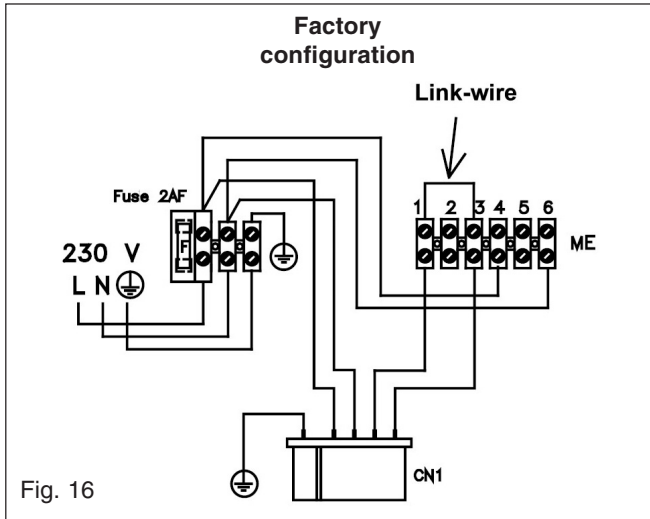

Fig. 16
Isolate the appliance from the electrical supply, and using a suitable multi-meter, carry out a short circuit test between the Live & Neutral connections at the appliance terminal strip (fig.16).
Repeat above test on the Live & Earth connections at the appliance terminal strip (fig.16).
- Connect test leads between the Live & Neutral connections at the appliance terminal strip (fig.16). The meter should read approximately 230V ac. If so proceed to next stage. If not, see 7.7.4.
- Connect test leads between the Live & Earth connections at the appliance terminal strip (fig.16). The meter should read approximately 230V ac. If so proceed to next stage. If not, see 7.7.4.
- Connect test leads between the Neutral & Earth connections at the appliance terminal strip (fig.16). The meter should read approximately 0 – 15Vac. If so polarity is correct. If not, see 7.7.4.
Isolate the appliance from the electrical supply, and using a suitable multi-meter carry out a resistance test. Connect test leads between the Live & Earth connections at the appliance terminal strip (fig.16). If the meter reads other than infinity there is a fault that must be isolated, carry out a detailed continuity check to identify the location of the fault.
The appliance comes with a factory fitted link (fig. 16) to allow basic operation of the boiler via the mode selector switch. If external controls are to be added to the system, they must be connected to the boiler as shown in the following diagrams. For advice on controls that are not featured in this book, please contact Vokera technical on 0870 333 0520.